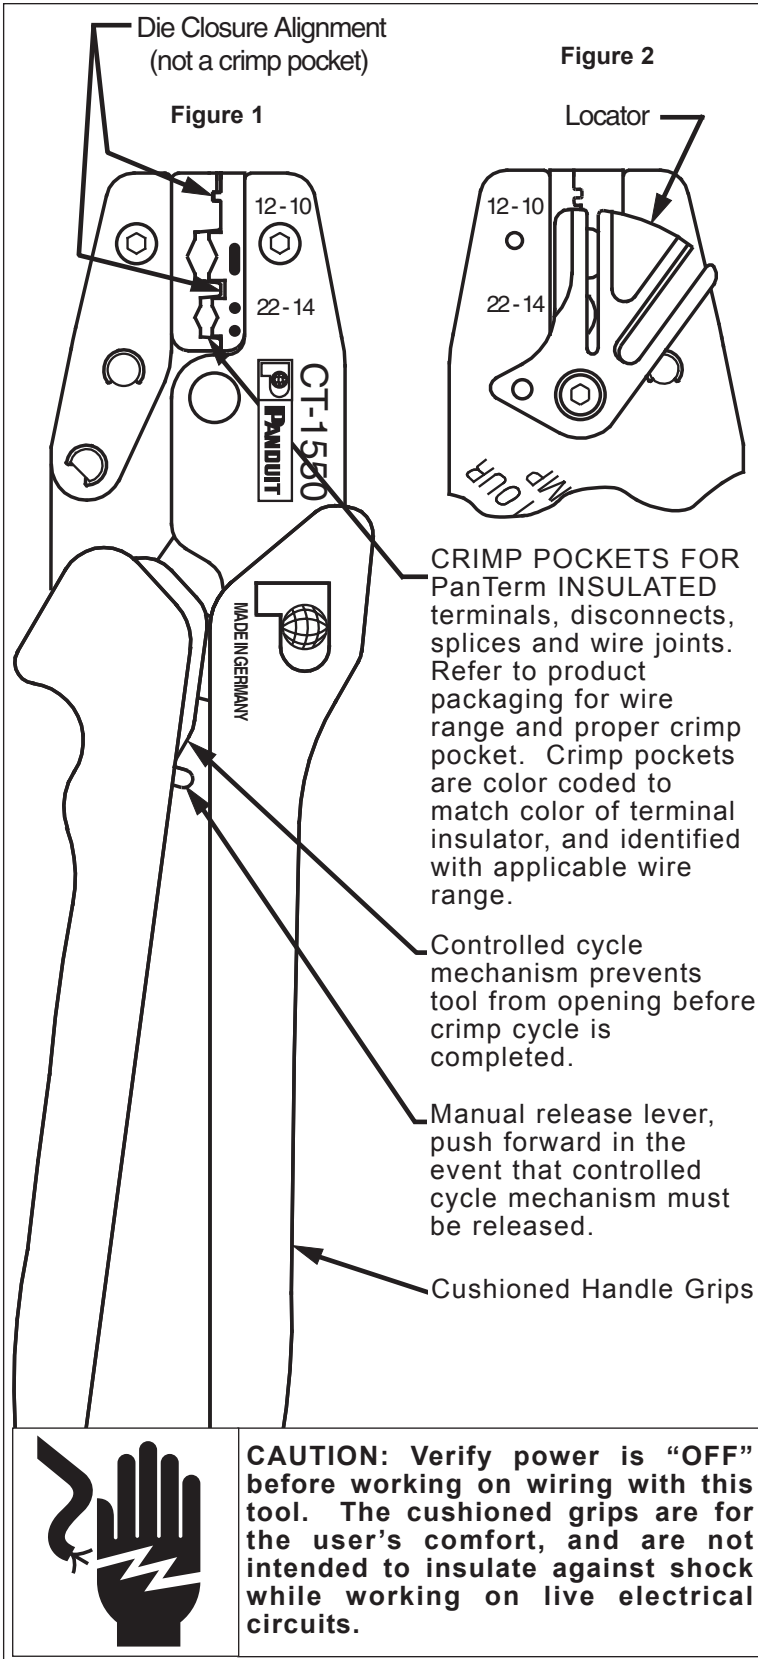

Figure 3
1. With the handles in the **closed** position, (See Figure 1), rotate the locator until the narrow slot is centered between the crimp pockets (See Figure 2). The locator will detent and “lock” in this position. Squeeze the handles to open the tool. With the back of the terminal tongue turned toward the color dots, insert the terminal in the proper crimp pocket (See Figure 1) so that the tongue slides into the locator slot (See Figure 3). Refer to product packaging for selection of proper crimp pocket.